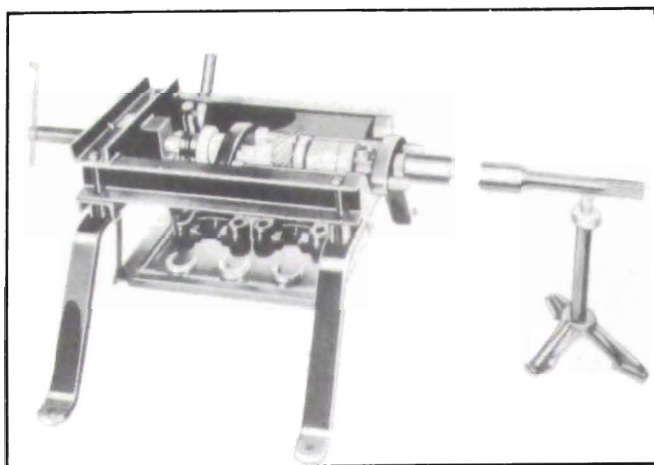

Figure 5-7—Pinion Press J 1292-B
6. File or cut off one end of propeller shaft coupling pin and drive out the pin, then pull propeller shaft from pinion using Press J 1292-B. See figure 5-7.
3. Coat splines of pinion and propeller shaft with white lead, then press pinion into propeller shaft until coupling pin holes are aligned, using Press J 1292-B. See figure 5-7. Pinion must not be a loose fit in propeller shaft. Install a new coupling pin and solidly rivet both ends.